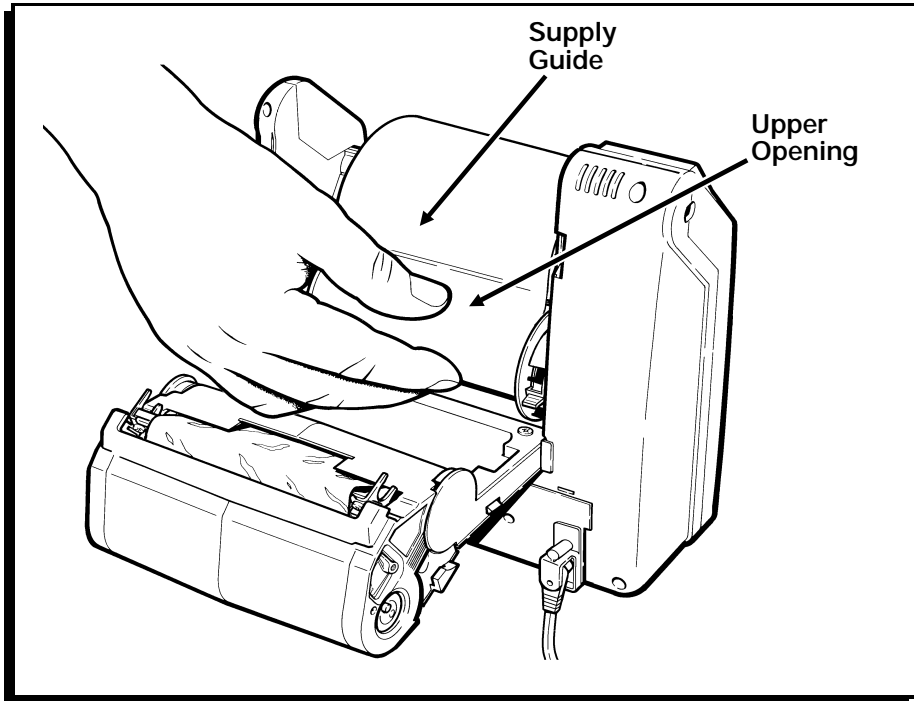

Figure 33
5. For non-peel mode printing, feed the supply strip through the upper opening in the supply guide. (Figure 33.)